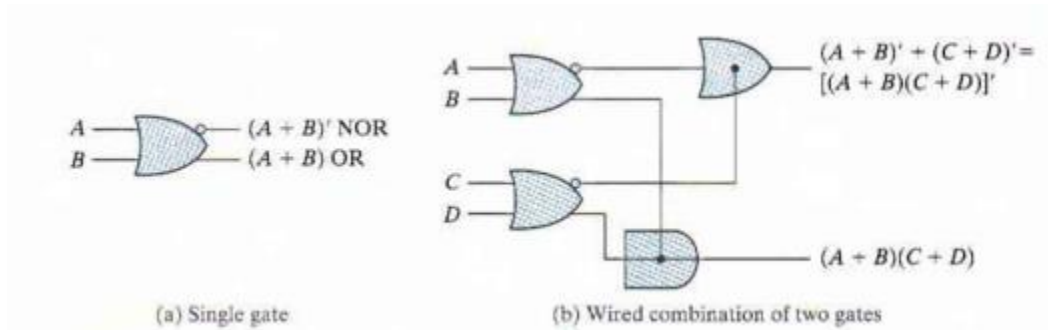

Fig 14. Graphic symbol and wired combination if the ECL gate
- The graphical symbol for the ECL shown in Fig14 a Two outputs are available: one for the NOR function and the other for the OR function.
- Fig14 b shows An external wired connection of two NOR outputs produces a wired-OR function.